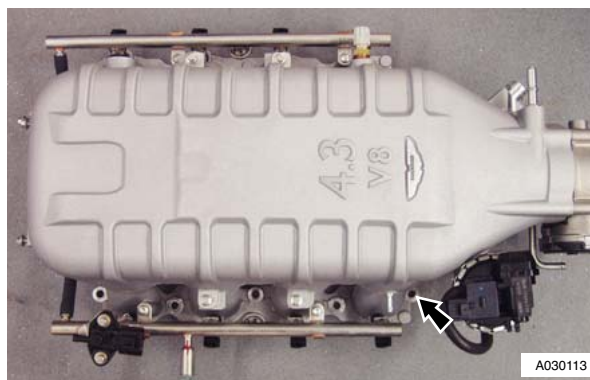

Figure 1
44. Remove manifold bolts (x 10) (see Figure 1)